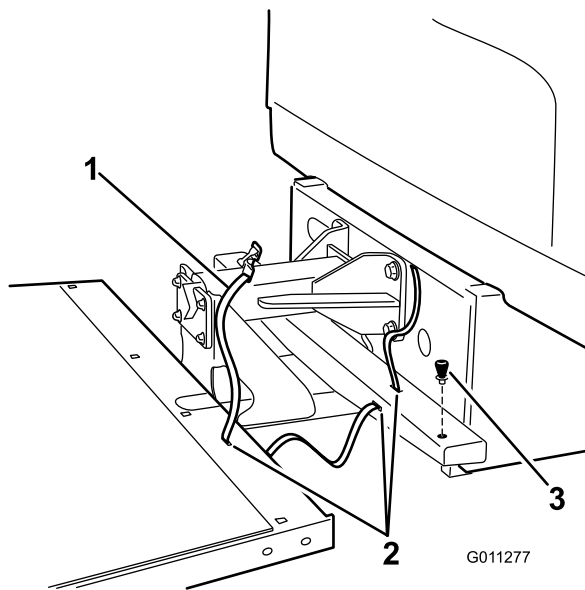

Figure 3
6. Install the strap through the slots in the frame (Figure 3). Install the rubber bumper through the hole in the frame as shown.